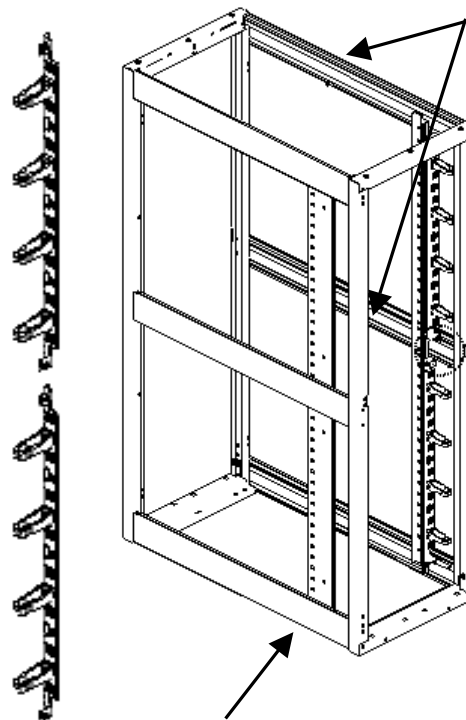
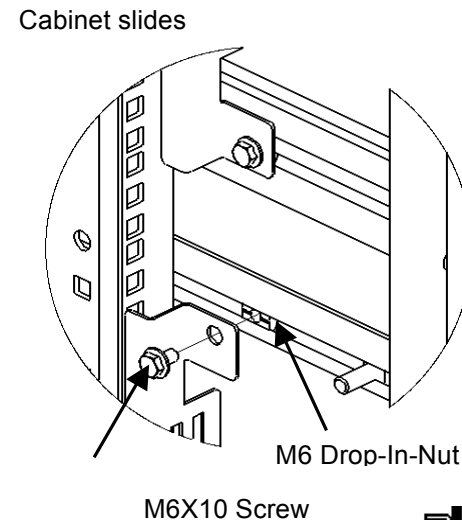
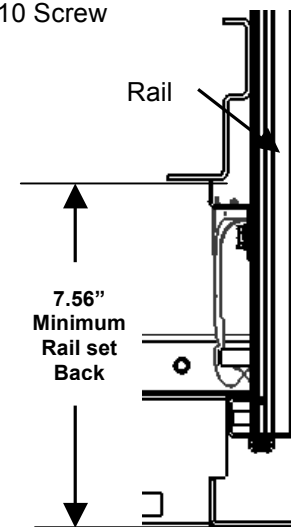

Fig. 1
Fig. 2
Fig. 3
The equipment mounting rail must be set back a minimum distance of 7.56" (192 mm) for Ring Cable Manager Installation as shown in Fig. 2 and Fig 3.
The Ring Cable Manager (Fig.1) attaches to the cabinet slides (Fig 2).
2. Insert M6 Drop-in-Nuts in the slides as shown below. Fasten the Ring Cable Manager bracket using M6X10mm screws into the Drop-In-Nut (Fig 2 detail).